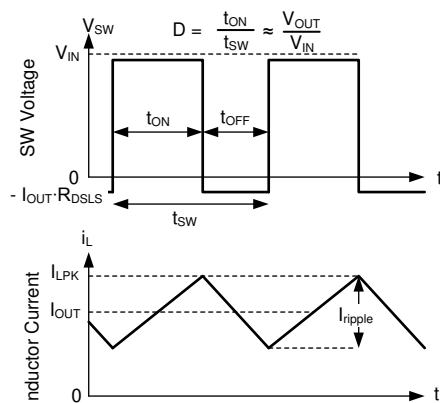

Figure 7-18. SW Voltage and Inductor Current Waveforms in Continuous Conduction Mode (CCM)
The following operating description of the LMQ644xx refers to Functional Block Diagram and the waveforms in Figure 7-18. Both supply a regulated output voltage by turning on the internal high-side (HS) and low-side (LS) NMOS switches with varying duty cycle (D). During the HS switch on-time, the SW terminal voltage, V_{SW} , swings up to approximately V_{IN} , and the inductor current, i_L , increases with a linear slope. The HS switch is turned off by the control logic. During the HS switch off-time, t_{OFF} , the LS switch is turned on. Inductor current discharges through the LS switch, forcing V_{SW} to swing below ground by the voltage drop across the LS switch. The regulator loop adjusts the duty cycle to maintain a constant output voltage. D is defined by the on-time of the HS switch over the switching period: $D = T_{ON} / (T_{ON} + T_{OFF})$.